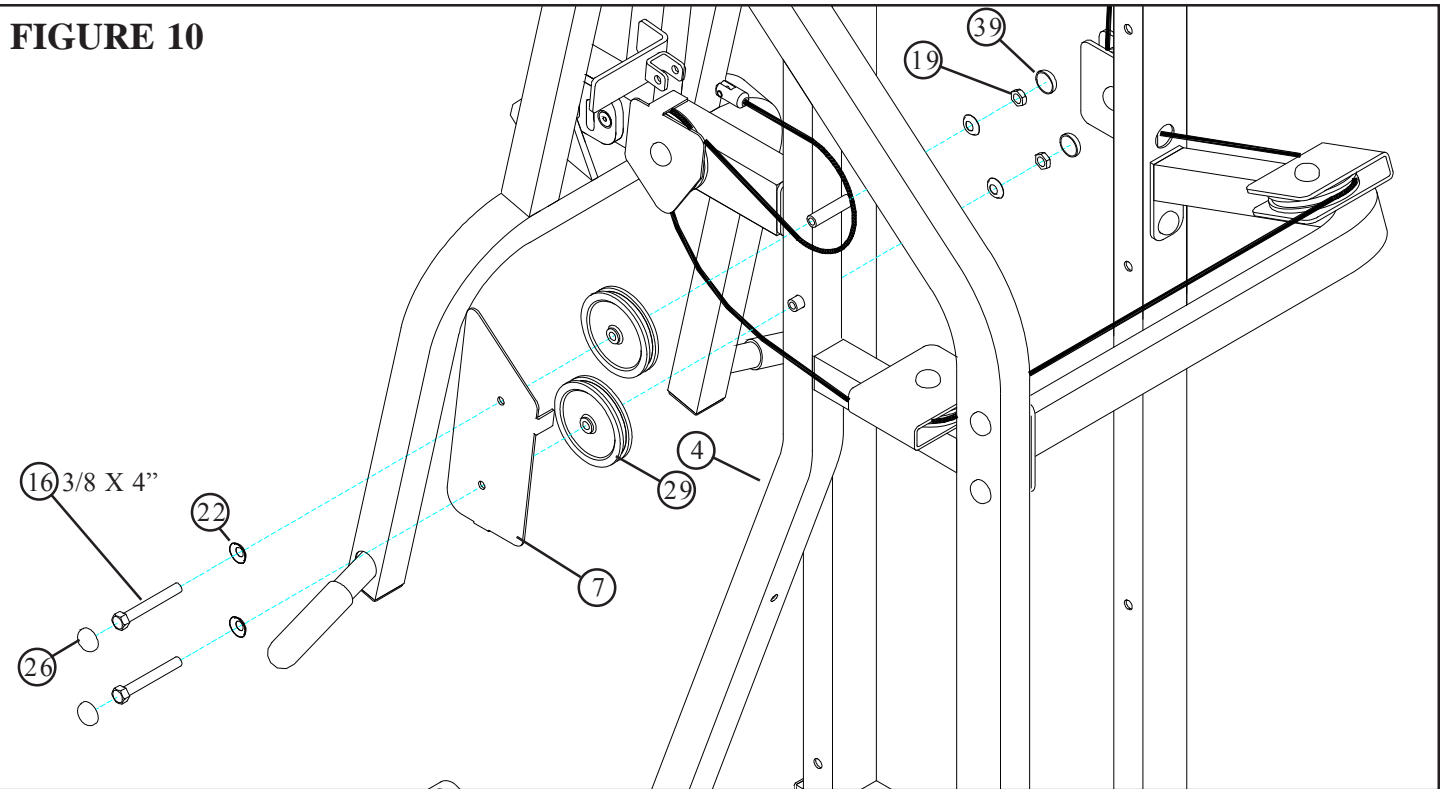

**FIGURE 9**
- **SECURELY** assemble the SINGLE CHEST SHROUD (6) and one 4-1/2" PULLEY (29) to the ARM ADJUSTMENT (3) using one 3/8 X 4" BOLT (16), two 3/8" SAE WASHERS (21), two RH WASHERS (22), one 3/8" LOW HEIGHT LOCK NUT (19), and one RH CAP (26) and one RH CAP (39) as shown in FIGURE 9